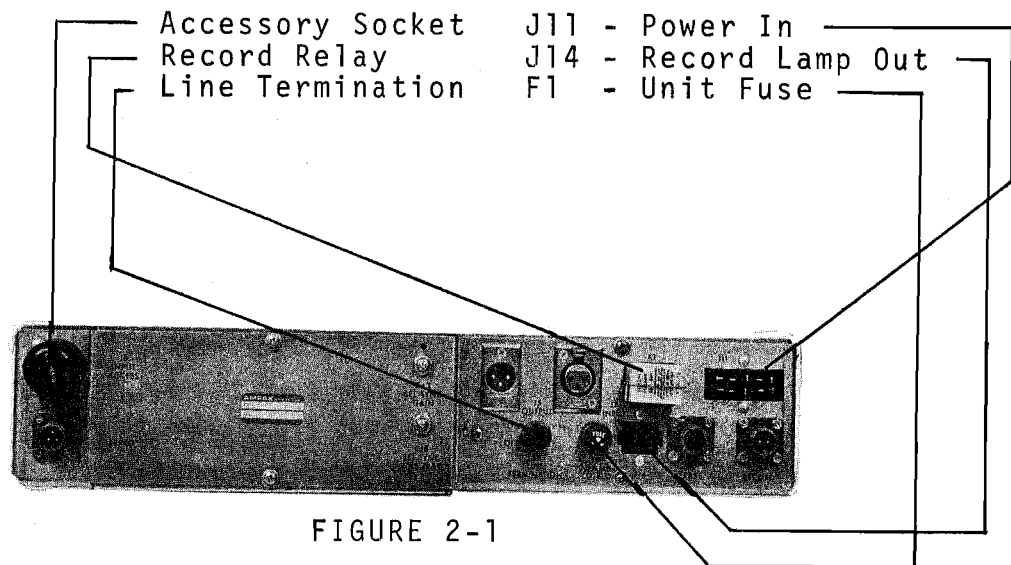

FIGURE 2-1
2.2.5 Line Termination (Figure 2-1)